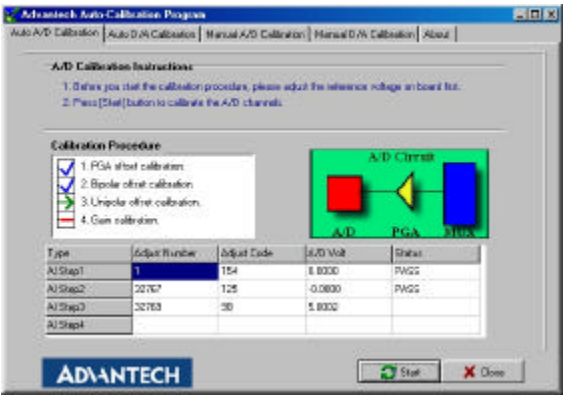

Fig. 5-9 A/D Calibration Procedure 3
Step 7: The third A/D calibration procedure is enabled (Fig. 5-9)